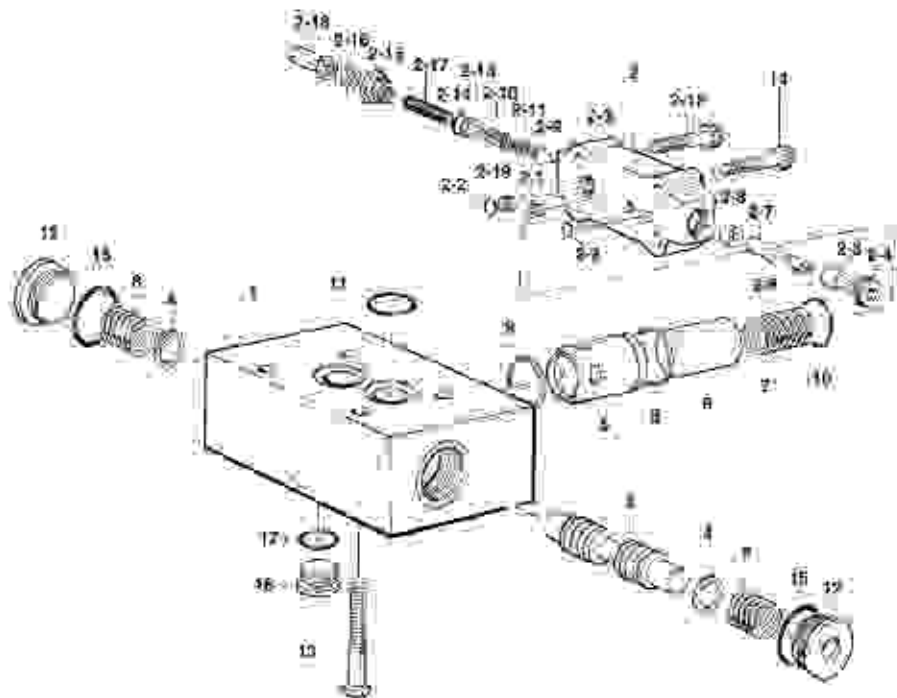

FIGURE 11 EXPLODED VIEW OF SHUTTLE VALVE
See figure 11: Insert seal (2-6) into cup (2-9) and seat in bottom of bore.
See figure 11: Lube spool (3) and insert it into valve body (1). When the spool is fully engaged, raise the spool back and forth a few times (backlash or smooth operation). Spool must move freely in body bore.
PARTS LIST FOR FIGURE 11, S23-11966
PARTS LIST FOR FIGURE 11, S23-11966 ITEM 2
See **Figure 11** Lubricate retainer (11) and place in C-bore of shuttle valve mounting surface.